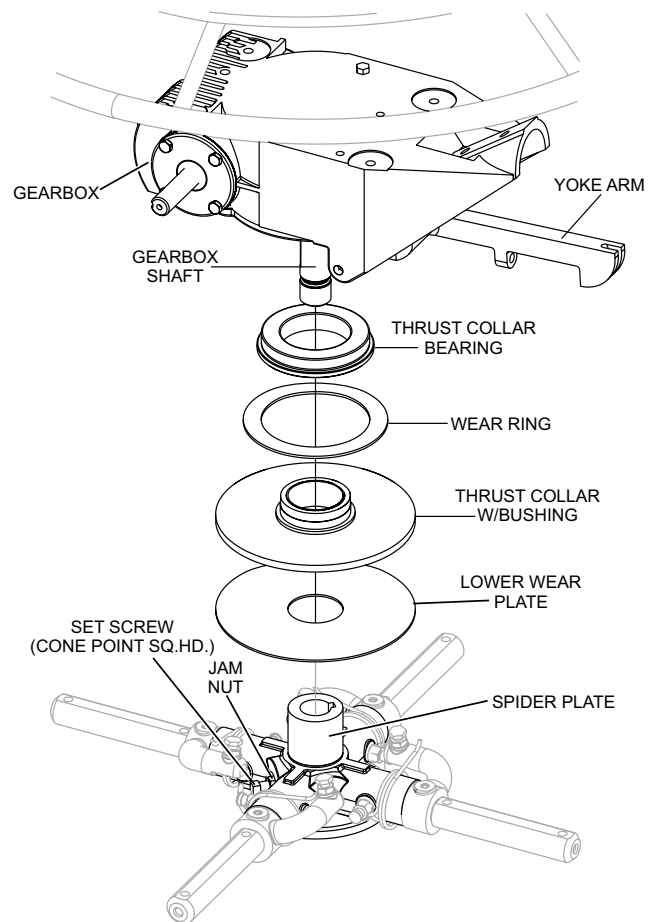

Figure 57. Spider Removal
- Locate the cone point square head set screw (Figure 57) and attached jam nut found on the side of the spider assembly.